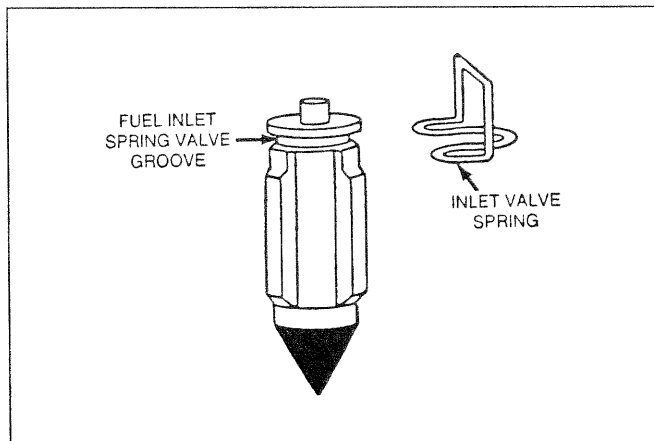

Figure 133. Inlet Valve Spring Installation
- Install fuel inlet valve spring into the valve groove (Figure 133).